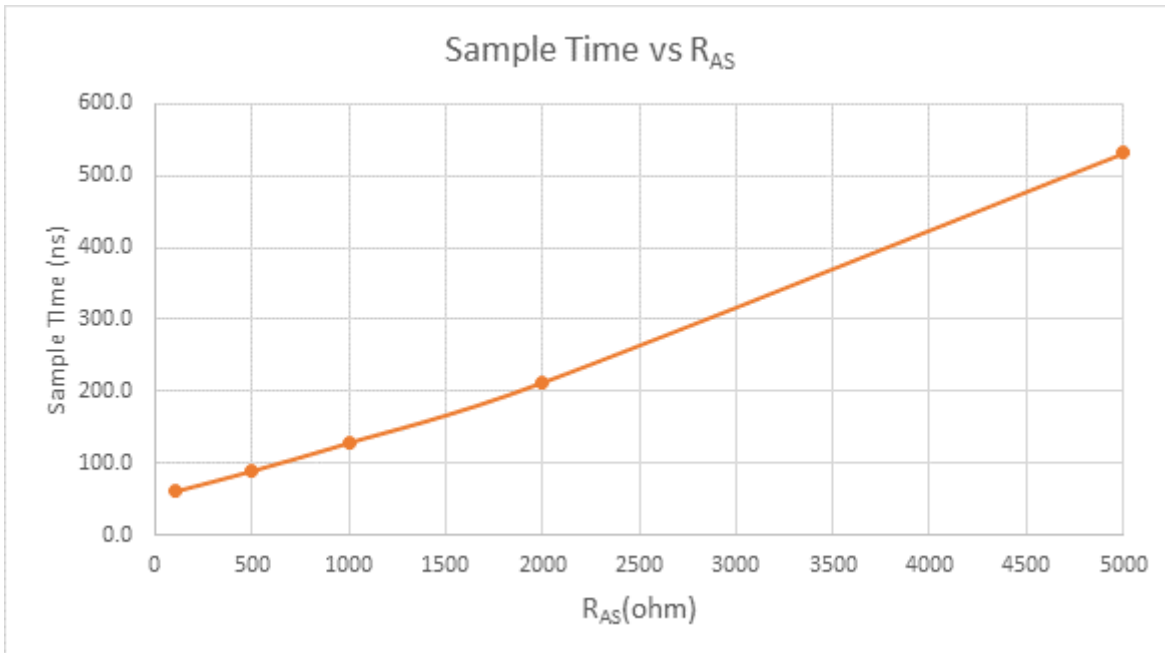

Figure 33. Sample time VS. R_{AS}
³ See Figure 33, "Sample time VS. RAS".
- ⁵ See Figure 33, "Sample time VS. RAS".